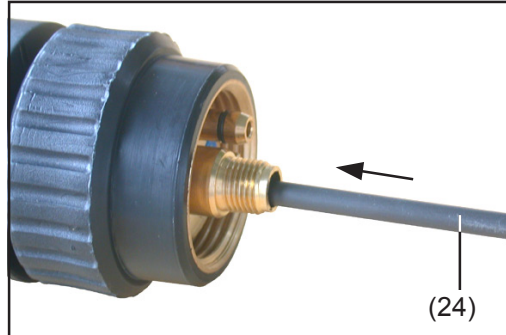

Fig.21 Inserting the new inner liner
- Optionally, the infeed nozzle (26) - 42,0001,5421 is also available
- Tighten the infeed nozzle (26) at the welding torch connector end of the machine
- At the welding torch connector end of the hosepack, cut the inner liner (24) to length on the infeed nozzle (26), as shown in Fig.21